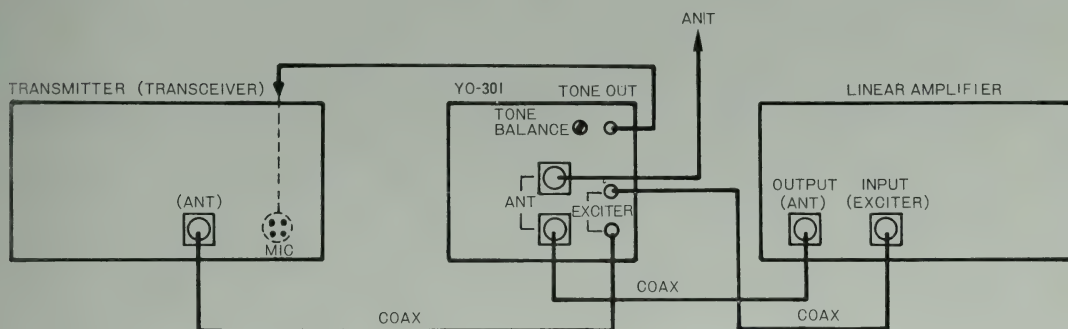

Figure 5
Set up the monitorscope and the transmitting equipment as illustrated in Figure 5 for linearity test of the RF amplifier. The patterns from this test are called trapezoid patterns. Press down the TRAP switch on the front panel.
- (1) Connect a coaxial cable from the output of the exciter to one of the connectors marked EXCITER and connect the other connector to the input of the linear amplifier under test with a coaxial cable as illustrated in Figure 5
- (2) Connect a coaxial cable from the RF output connector of the linear amplifier to one of the ANTENNA connectors on the monitorscope. Connect the dummy load or antenna to the other ANTENNA connector of the monitorscope.
- (3) Connect a shielded cable from the TONE OUT of the monitorscope to the microphone input of the exciter.
- (4) Turn ON the POWER switch of the monitorscope and adjust the controls as described in the initial adjustment procedure.
- (5) Set the SWEEP FREQ switch to TRAP position and the tone signal switch to the TWO TONE position.
- (6) Turn on the exciter and linear amplifier and adjust the switch and H. GAIN control of the monitorscope for the desired pattern display.
- (7) Refer to the patterns on Page 12 for the evaluation of the linearity of the linear amplifier under test.